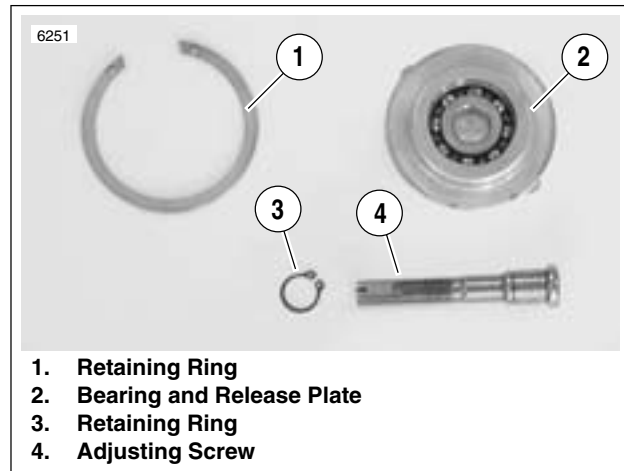
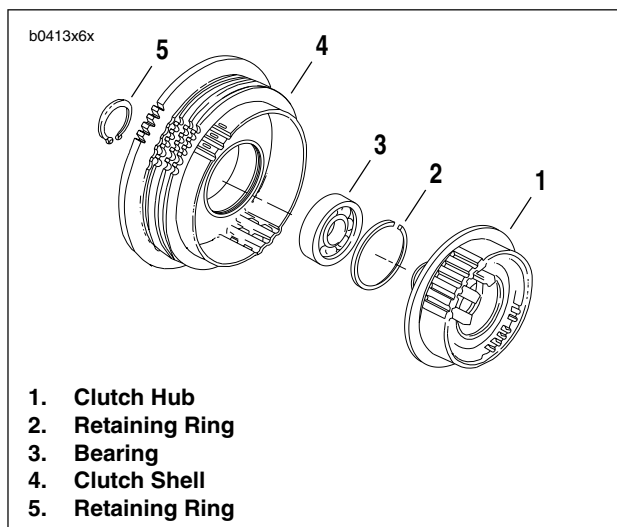

Figure 6-15. Adjusting Screw Assembly
Figure 6-20. Clutch Hub and Shell Assembly
3. See Figure 6-15. Remove adjusting screw assembly.
- a. Remove large retaining ring (1).
- b. See Figure 6-15. Secure the adjusting screw assembly with large retaining ring (1).
- a. Place a wrench on the clutch spring forcing screw (1) flats to prevent the forcing screw from turning.
- b. Turn the compressing tool handle (5) counterclockwise until the handle spins off.
- c. Remove washer (4), bearing (3) and bridge (2).
- d. Remove clutch spring forcing screw (1) from clutch adjusting screw.
- e. Remove spring seat (9) and diaphragm spring (6) from pressure plate (7).
10. See Figure 6-15. Remove and disassemble adjusting screw assembly.
- c. If necessary, disassemble adjusting screw assembly. Remove and discard small retaining ring (3) and then separate the adjusting screw (4) from the bearing and release plate (2). Remove bearing from release plate.
- See Figure 6-20. Assemble clutch hub and shell if necessary.
- Press **new** bearing (3) in clutch shell (4). Secure bearing with a **new** retaining ring (2).
- Press inboard end of clutch hub (1) into shell bearing (3). Secure with **new** retaining ring (5) on end of hub.
- See Figure 6-15. Place bearing inside release plate. Insert adjusting screw (4) through bearing and release plate (2). Secure with **new** retaining ring (3).
- b. See Figure 6-15. Secure the adjusting screw assembly with retaining ring.